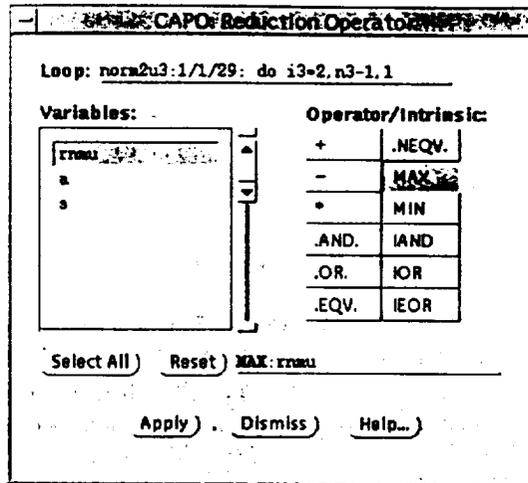

Figure T3-2: The Reduction Operator dialog after the **Reduction** setting is selected.
- 8. Define a new loop type.** From the **File** menu, load in the database "mg\_full.dbs" from the previous analysis. Perform Step 3. In the **WhyDirectives** window, click the **New Type** button. Right after the **Reduction** setting is selected the **Reduction Operator** dialog box is shown up (see Figure T3-2). Select variable "rnmu" and intrinsic function "max", and push **Apply** in the **Reduction Operator** dialog and in the **Loop Type** dialog. A new entry "R[max:rnmu]" is added to file "userloop.par" in the current working directoy. This is to inform CAPO to treat variable "rnmu" as a reduction variable besides other variables (such as "s"). Now in CAPO click **Update Directives** to re-perform the directives analysis, which will take into account the user-defined loop types from file "userloop.par."